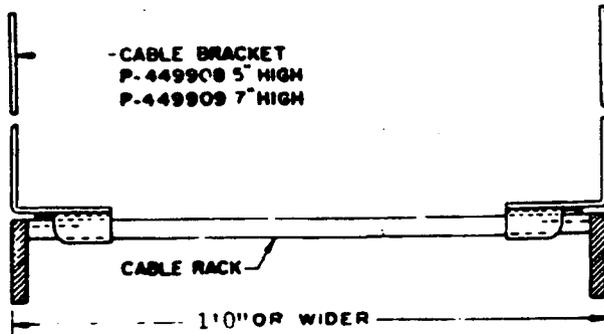

FIG. 1 SINGLE CABLE RETAINING BRACKETS ON CROSS STRAPS (PARS. 3.11, 3.13)
1.31	Cable retaining L and U shaped brackets P-449907, P-449908 and P-449909 (See Figures 1 and 2) are used with ladder type cable racks in carrier offices where high-level transmission lines are to be separated from low level transmission lines. They are also used in small offices where concentration of cables is small. These brackets are furnished as equipment and are ordered in the specification.
3.11 Brackets, P-449908 and P-449909, five and seven inches high respectively, are single brackets and are used two or more on a cross strap as shown in Figure 1 and 2.
3.13 Use two brackets on cross straps of cable racks as illustrated in Figure 1 except:
4.31 Place the P-449908 and P-449907 brackets, so as to allow the use of the full width of the rack where there are sufficient cables to form a full basic layer as shown in Figure 1. Where the amount of cable is less than a layer, move the brackets so they hold the cables in their proper position.